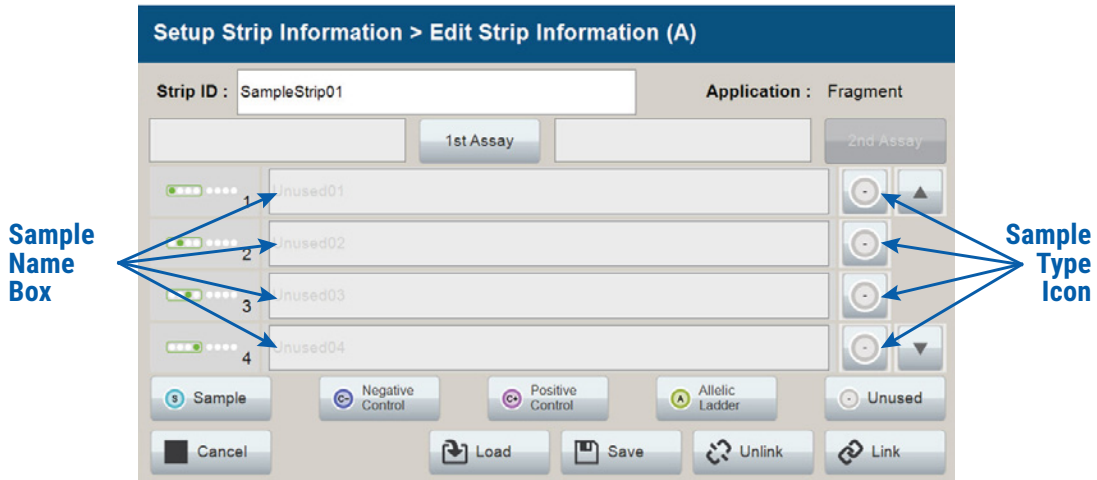
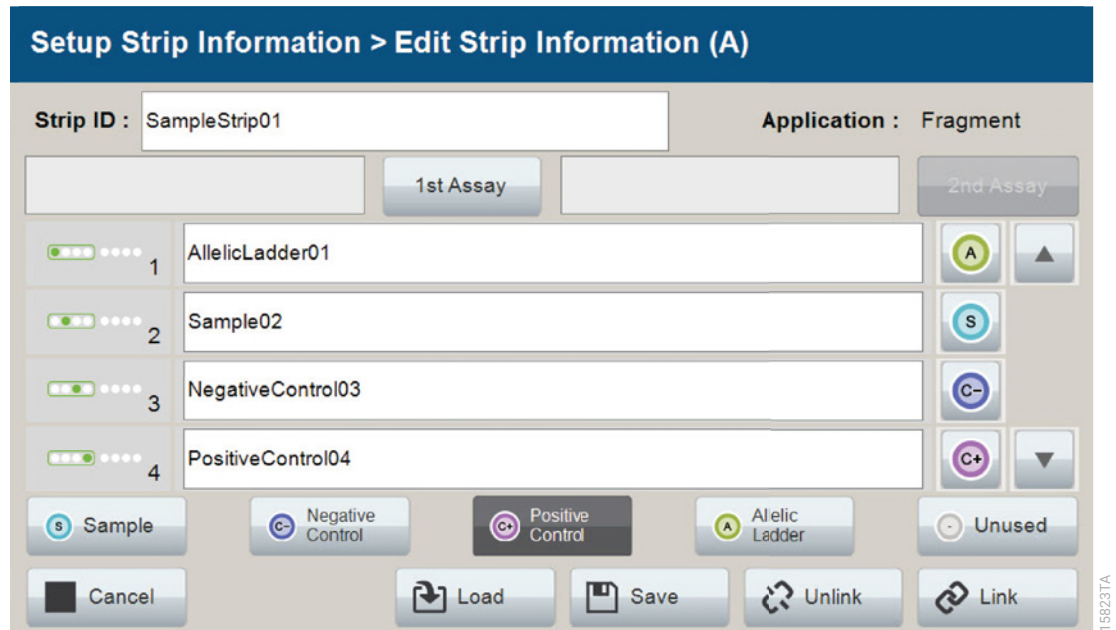
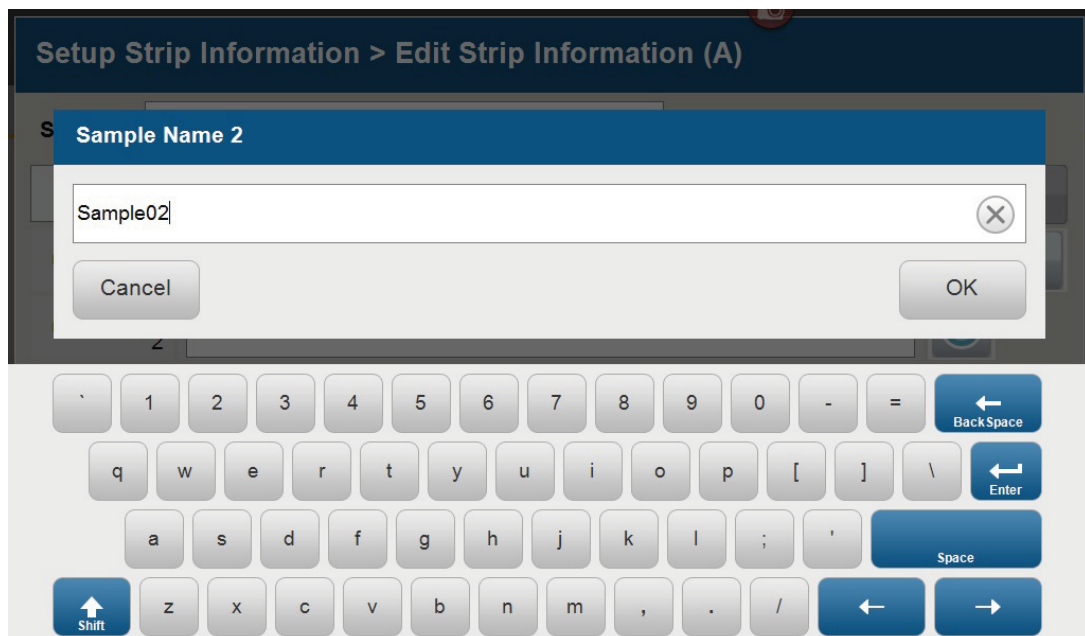
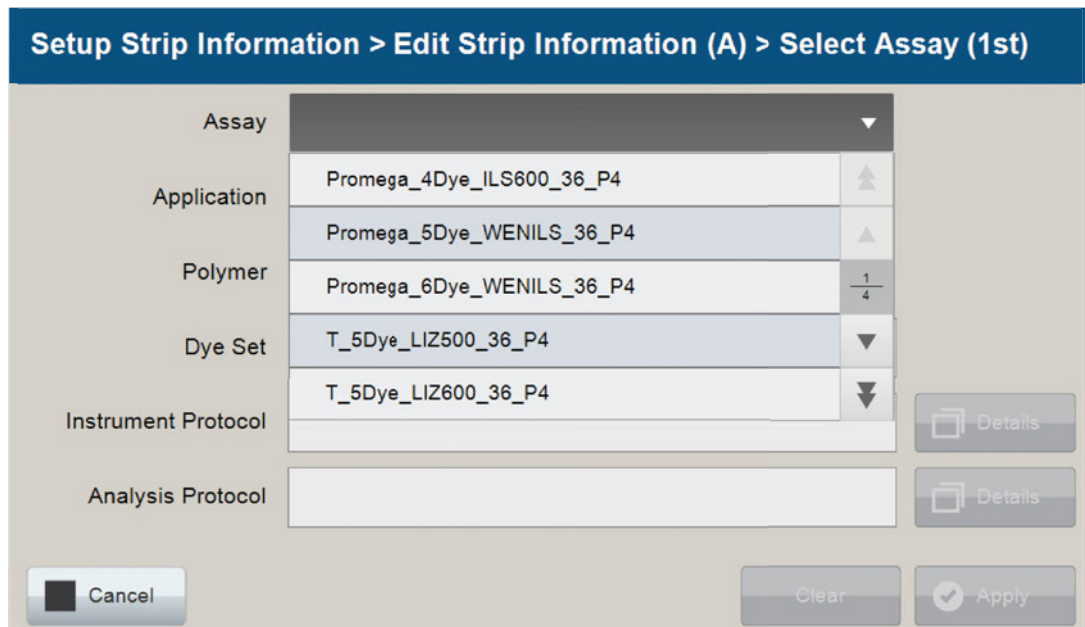

Figure 12. Sample Type and Sample Name on 'Edit Strip Information' screen.
Figure 13. Sample Name Entry on 'Edit Strip Information' screen.
Figure 14. 'Set Sample Name' window.
Figure 15. 'Select Assay' window.
4. Select a sample type on the 'Edit Strip Information' screen (Figure 12). Sample types must be selected for each well position before the Sample Name box becomes active for entry of sample name. Sample types are as follows.
5. To assign a sample type to a well, select the appropriate sample type along the bottom of the 'Edit Strip Information' screen (Figure 12), and then select the **Sample Type** icon to the right of the sample name field for the desired well. This icon will then display the sample type selected for that well (Figure 13).
6. Enter a sample name for each well position by selecting the Sample Name box adjacent to the well number on the 'Edit Strip Information' screen (Figure 13). This opens the 'Set Sample Name' window and a keypad will become active on the touch screen (Figure 14). Alternatively, the Sample Name can be entered using a traditional keyboard if one is connected to the Spectrum Compact CE System. Enter the appropriate sample name, and then select **OK** to exit and return to the 'Edit Strip Information' screen.
- The Spectrum Compact Control Software includes preloaded run assays for use with chemistries available from Promega. Refer to the *Spectrum Compact CE System Operating Manual #TMD058* for information on creating or modifying assays. To assign a run assay to an injection set, select **1st Assay** on the right side of the 1st Assay field (Figure 13). This opens the 'Select Assay' window (Figure 15). Select "Promega_5Dye_WENILS_36_P4" from the drop-down list (Figure 15) and then select **Apply**.